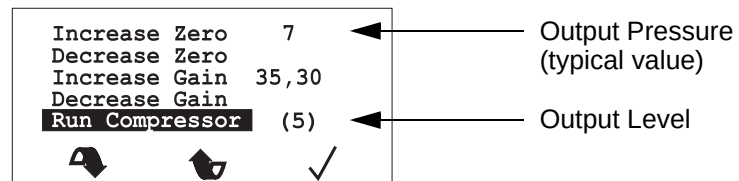

Figure 27 - LCD Display - Output Pressure
- 8.10 To start the test, scroll down the list of options to **Run Compressor**, and select it using the  button. The compressor will start running at output level "5", indicated by the **(5)** on the LCD display, and the **Output Pressure** shown on the LCD display should rise and then stabilize (Refer to Figure 27).